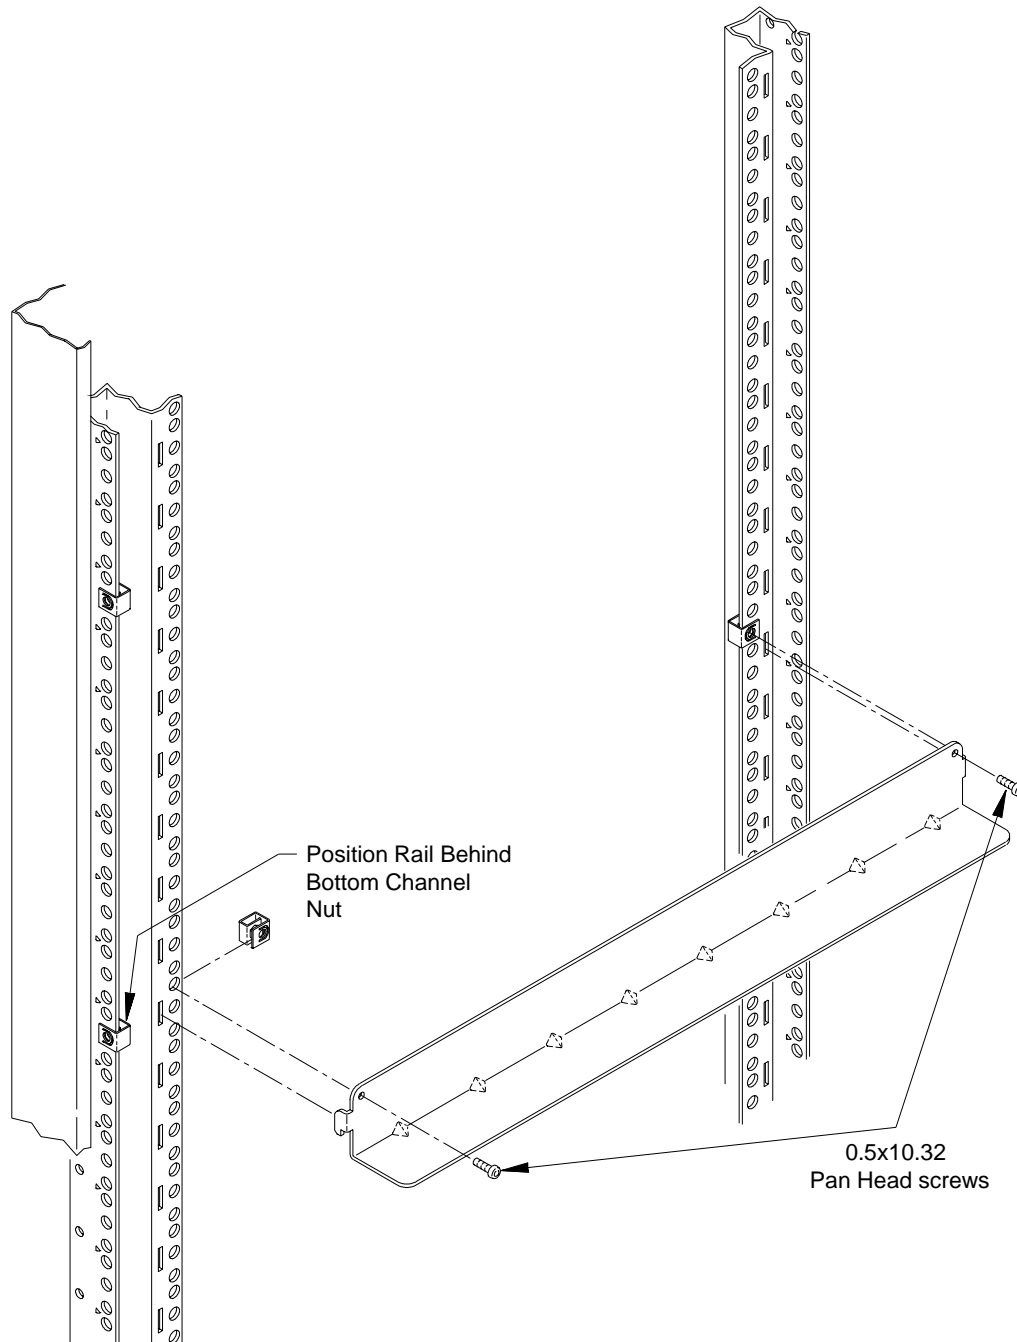

Figure 2-3. Attaching the Support Rails to the Rack.
4. Attach the support rails to the rack's inside vertical rails. The support rails must be positioned behind the **bottom** channel nuts installed in Step 3 (Figure 2-3). Use four channel nuts and the four 0.5x10-32 support rail-to-rack pan head screws to secure the rail.